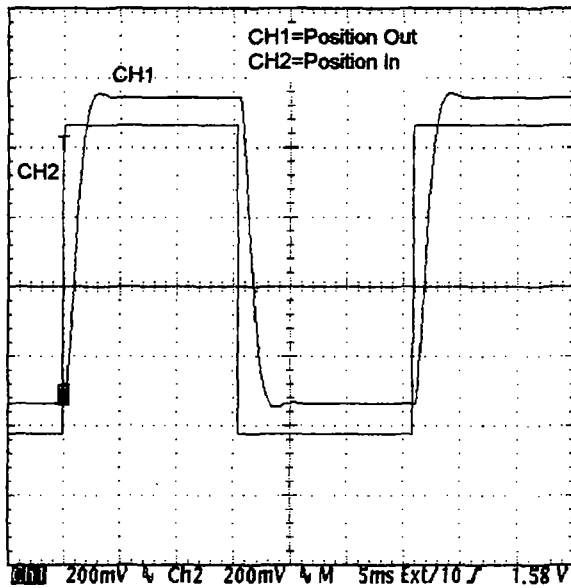

Figure 21.
9. Turn R59 CW until the undershoot is minimized, i.e. at the same amplitude as the settled position. See Figure 21.